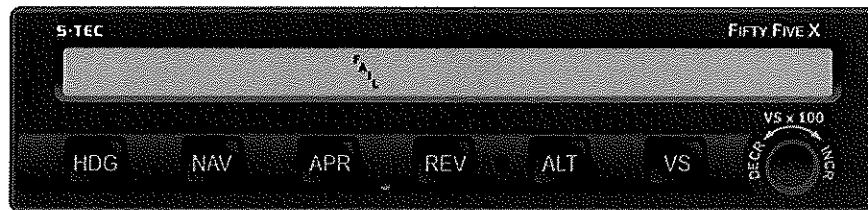

Fig. 2-4. AP Display, Programmer/Computer Failure
1. Should a Programmer/Computer failure be detected, the FAIL annunciation alone will re-appear on the AP display as shown in Fig. 2-4, and the autopilot will not operate.